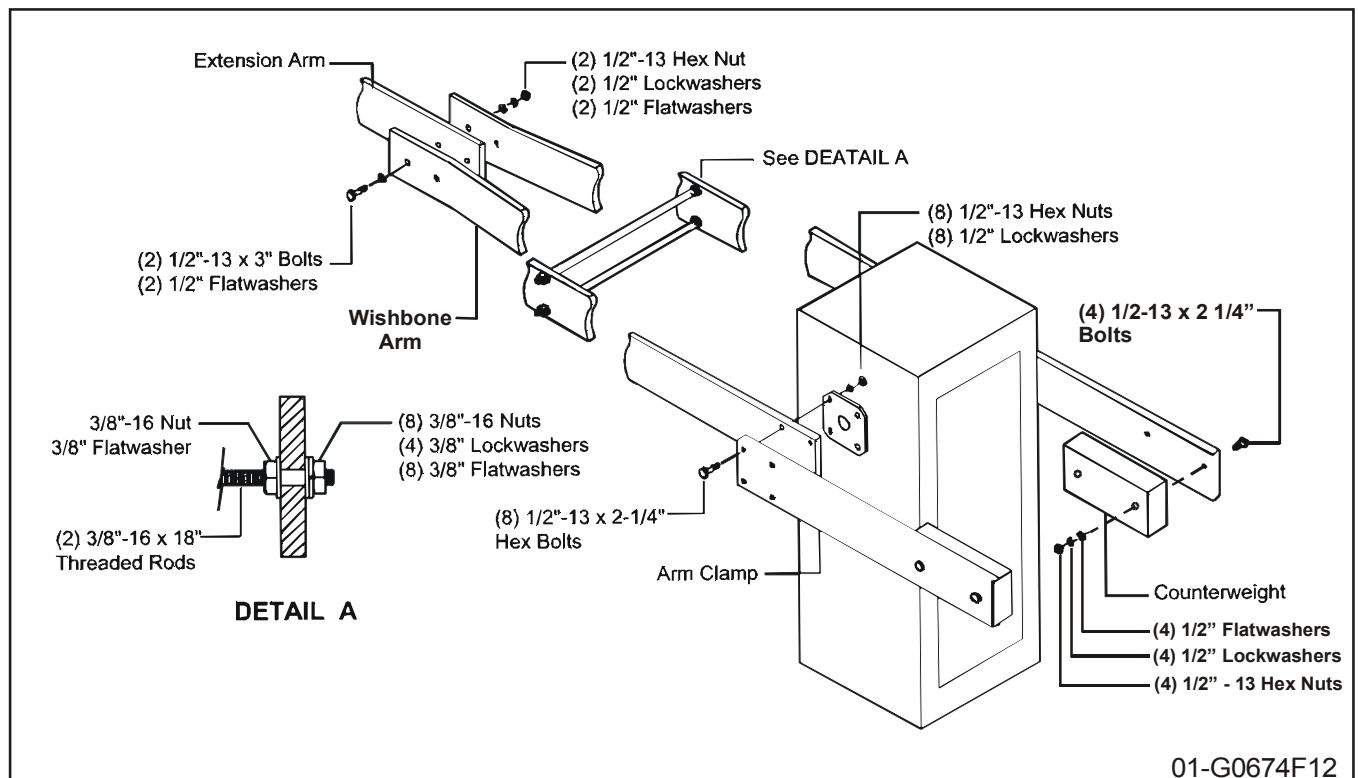

Figure 10
- 2 Bend and fasten the two arms together as shown in Figure 10.
- 3 Assemble the two 3/8" threaded rods to the arms for center support as shown in Figure 10.